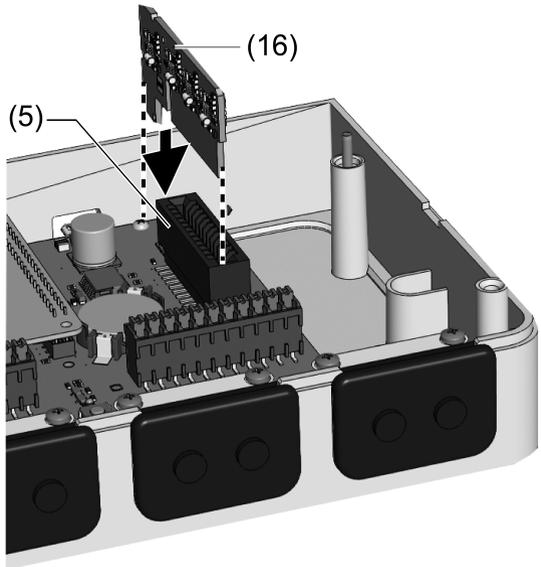

Figure 7: Inserting the interface **DALI DT6** or **DT8**
- Insert the interface **DALI DT6** (16) into slot **F2** as shown (Figure 7).
- Connect the interface **DALI DT8** to the **F2** slot (Figure 7).